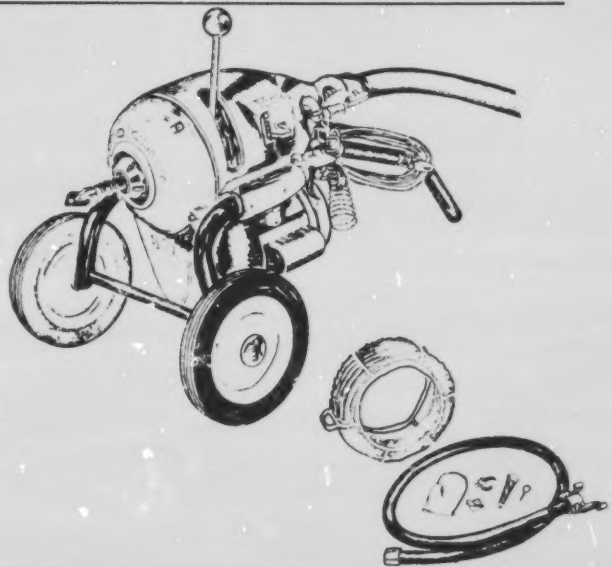

Figure 23-24. Heavy-Duty Drain-Cleaning Machine
74. The drain-cleaning machine shown in Figure 23-24 is of a heavier type than those on preceding pages. The manufacturer claims that it will speed-clean NPS 1¼ to NPS 4 pipelines up to 30 m. It spins both 16 mm (for NPS 1¼ to NPS 3 lines) and 22 mm (for NPS 3 to NPS 4 lines) sectional cable with speed coupler.